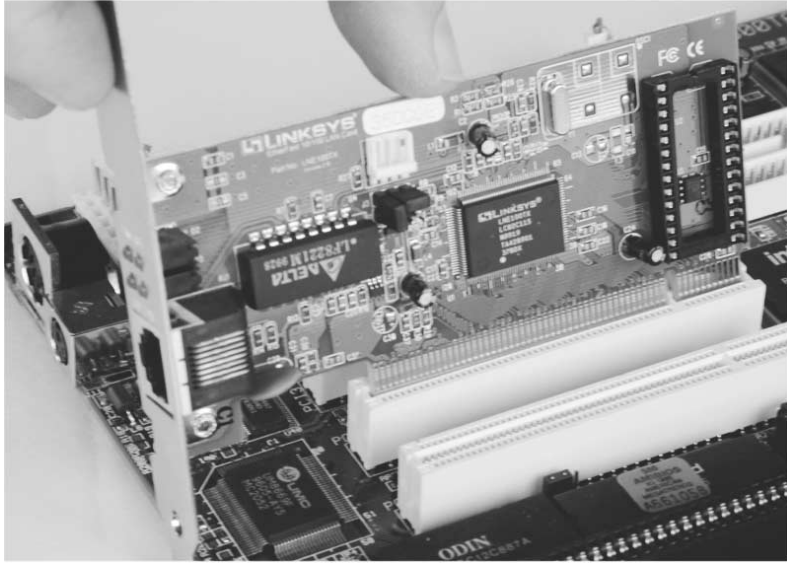
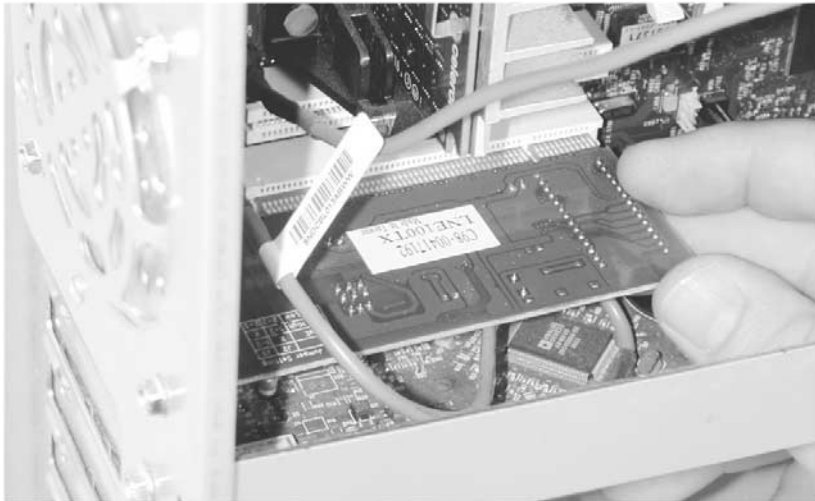

Figure 11-18. Align the expansion card to the slot before pushing it into the slot
Figure 11-19. Installing an expansion card in a PC
8. Insert the card by aligning it to the slot (refer to Figure 11-14) and then, with steady pressure, press the card into the slot. You may need to rock it very slightly, front to rear, to get it to settle into the slot. Don't force it. It should be snug, but you can also damage the slot or the card, or both, by forcing the card into the slot too fast and too hard. As you work, keep the card from rubbing or touching other cards already installed. Figure 11-18 shows how to align the card to the slot, but Figure 11-19 represents a more realistic situation.